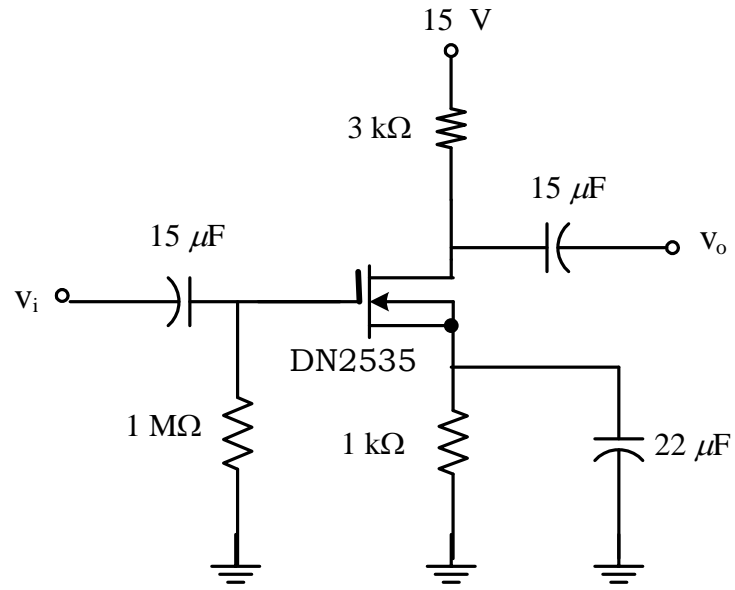

Figure 5.
1. Make the connections as shown in Figure 5.